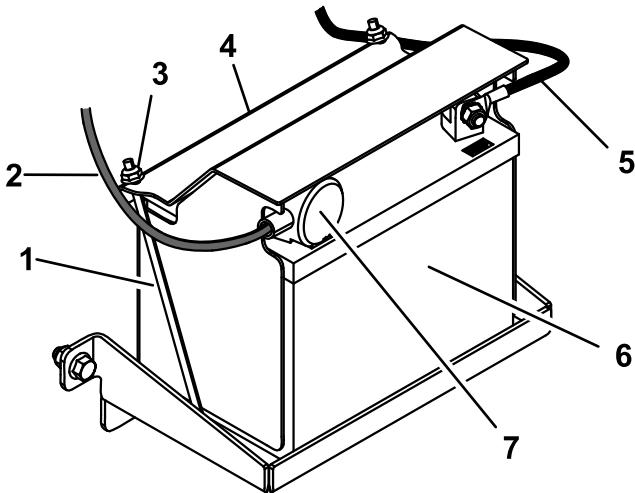

Figure 27
- Place the battery on the tray and secure it using the battery cover, 2 securing rods, and 2 nuts (Figure 27).
- Slide the red terminal boot onto the positive battery post (Figure 27).